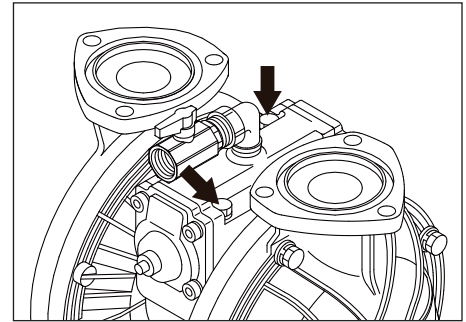

Figure 27
- Remove the 6 retainer bolts from the valve body and remove the valve body (See Figure 27).